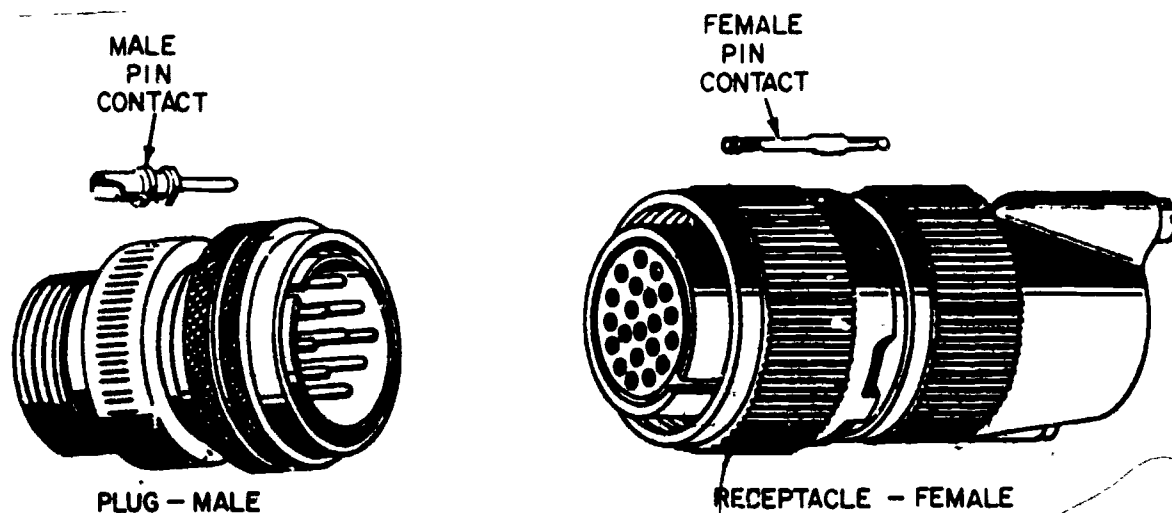

Figure 7. AN-Connector.
b. A detachable electrical AN-connector (figure 7) has a plug (male) and receptacle (female) assembly. The two parts are fastened together by means of a coupling nut. You must take care not to crossthread, strip, or jam the nut. Notice also, that the pin contacts in the AN-connector have cups in which a wire can be placed and soldered.